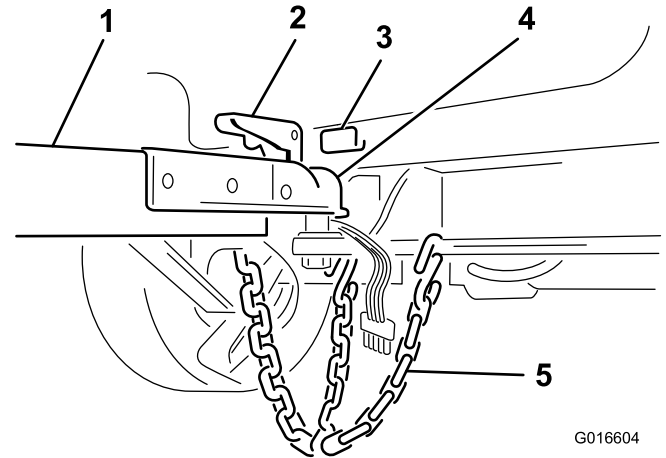

Figure 5
3. Remove the locking pin from the lever, squeeze the latch lock and lift the lever up to open the coupler (Figure 5).
5. Install the locking pin to secure the lever (Figure 5).